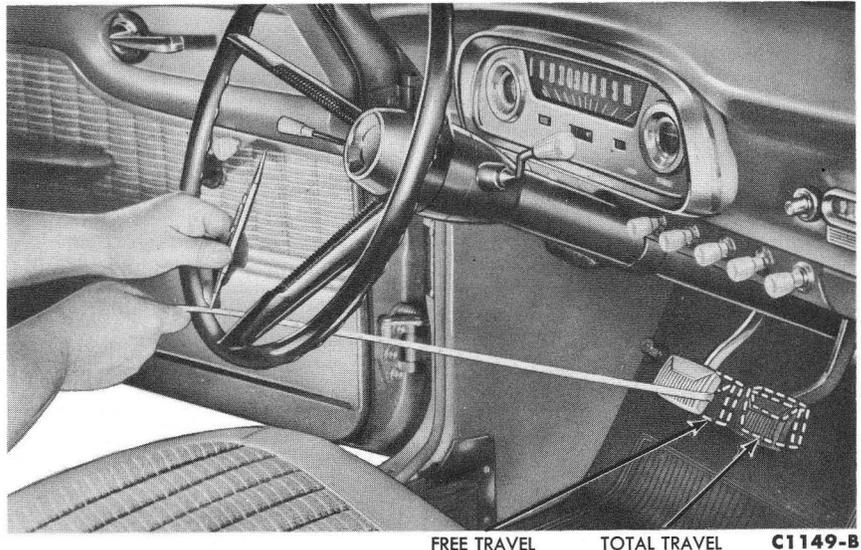

FIG. 3—Pedal Travel Measurement
2. Measure the total travel of the pedal (Fig. 3). If the travel is less than specification, move the clutch pedal bumper and the bracket until the travel is within these limits. **Always check and adjust total travel before checking free travel.**